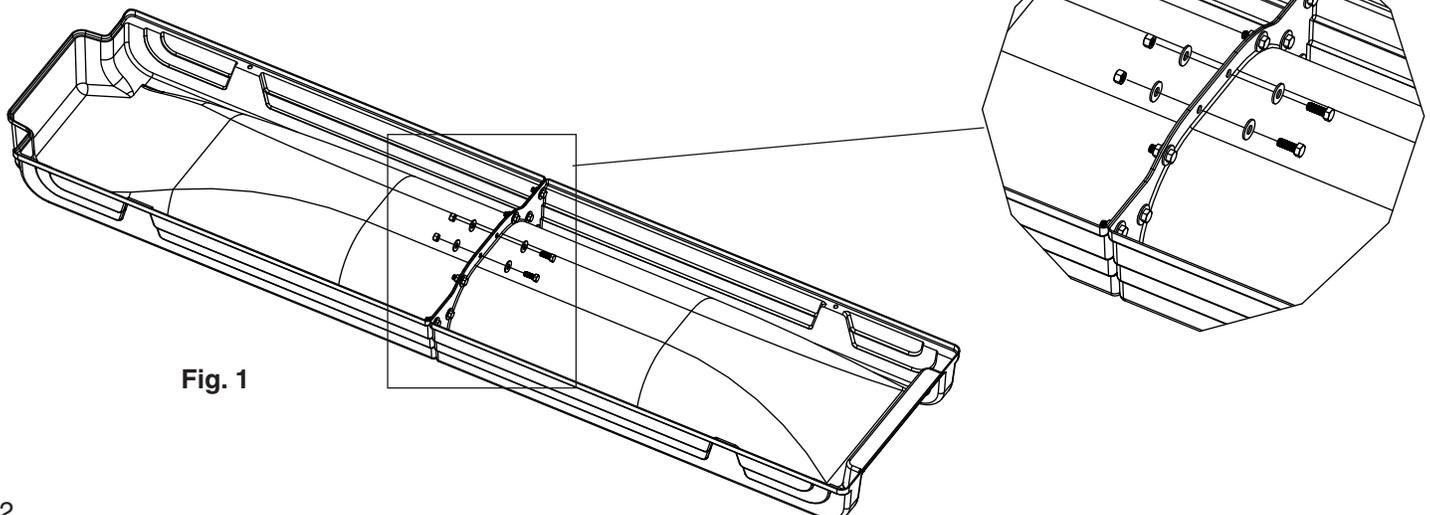

Fig. 1
- Fasten pivot with #8 x 2 1/2" deck screw provided. **(Fig. 1)**
- Attach water regulator to the end of hose. **(Fig. 1)**
2. Secure the two pieces together with ten 3/8" hex bolts, 3/8" washers and 3/8" lock nuts as shown. **(Fig. 1)**
3. From the underside of the existing slide, drill two 1/4" holes through both slides, one approximately 4" to the left and one 4" to the right of the top point of the star. (Fig. 1).
4. Remove the water slide and insert one 1/4" x 2" machine screw and 1/4" washer through one of the holes in the underside of the water slide. Use another 1/4" washer and 1/4" lock nut to securely attach the screw onto the water slide. (Fig. 1). Do this again for the other hole in the water slide.
3. From the underside of the beginning slide, drill two 1/4" holes through both slides, one approximately 4" to the left and one 4" to the right of the top point of the star. (Fig. 1). Locate the four mounting flanges on the *Water Slide*. Mark the ground under each flange by scraping the surface of the ground.